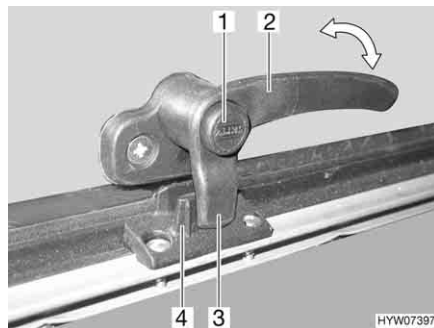
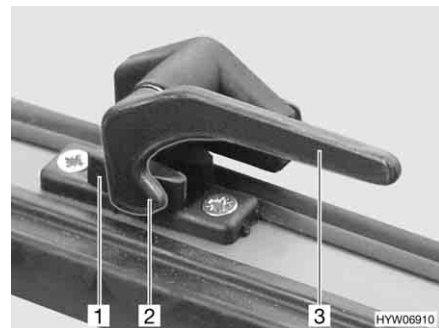

Fig. 94 Catch lever with safety knob in "closed" position
Fig. 95 Catch lever in "closed" position
- Press and hold the security button (Fig. 94,1), if present.
- Turn all catch levers (Fig. 94,2 or Fig. 95,3) a quarter turn towards the centre of the skylight.
- Turn all catch levers (Fig. 94,2 or Fig. 95,3) a quarter turn towards the frame. The locking catch (Fig. 94,3 or Fig. 95,2) is located on the inside of the skylight lock (Fig. 94,4 or Fig. 95,1).
- Firmly closed (Fig. 94 and Fig. 95)